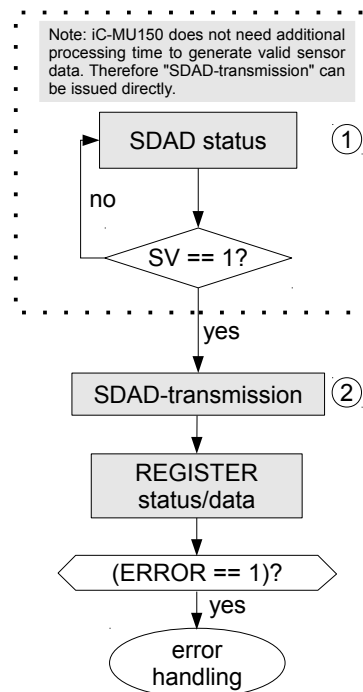

Figure 27: Example sequence of the commands SDAD Status/SDAD-transmission
Figure 27 shows the interaction of the two commands **SDAD Status** and **SDAD transmission**. It is not necessary to start each sensor data communication with the command **SDAD Status** (1). iC-MU150 has no processing time and can therefore directly output valid sensor data. Because of that the command sequence can start with **SDAD-transmission** (2). Following this, the command **REGISTER status/data** should be executed to detect an unsuccessful SPI communication.